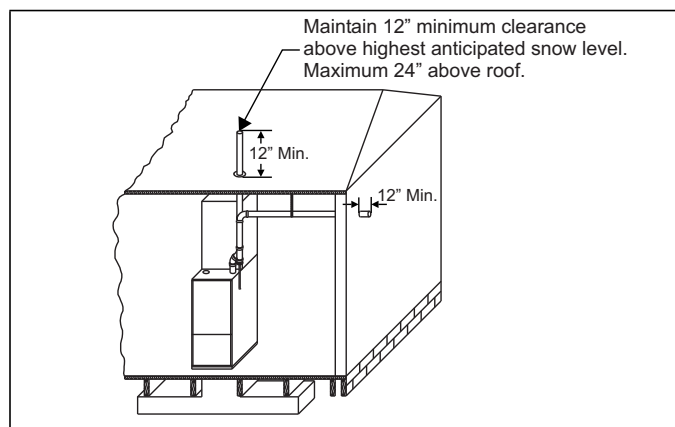
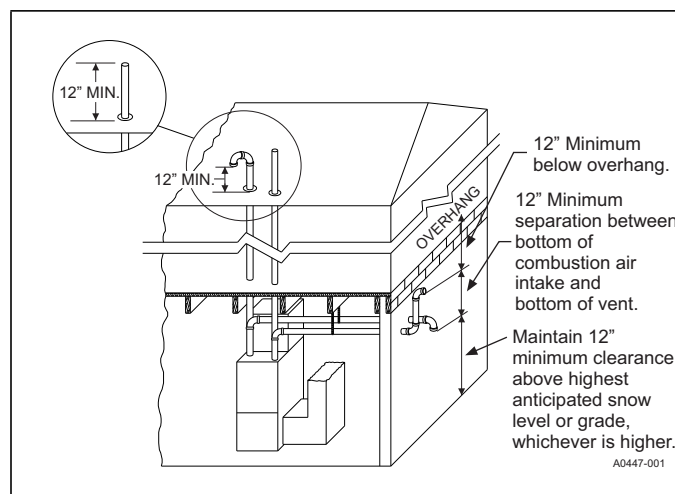
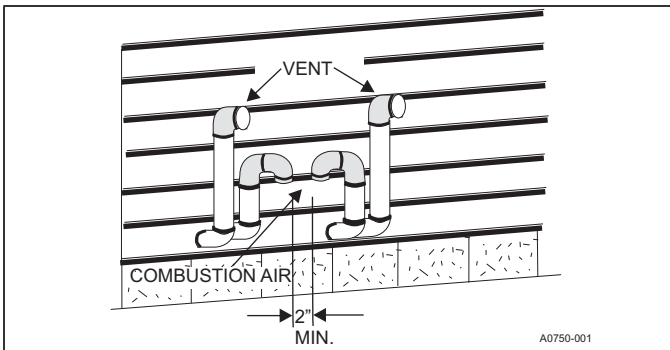

FIGURE 24: Termination Configuration - Single Pipe
FIGURE 26: Termination Configuration - Two Pipe Basement
FIGURE 27: Double Horizontal Combustion Air Intake and Vent Termination
- Direct vent systems must be installed so the vent and the combustion air pipes terminate in the same atmospheric zone. See Figures 24 and 25.
The combustion air side of the single-pipe configuration shown in Figures 24 and 31 is referred to in these instructions as ambient combustion air supply. Follow the instructions for ambient combustion air installations, paying particular attention to the Ambient Combustion Air Supply section. The vent for a single-pipe system must be installed as specified in the VENT APPLICATIONS AND TERMINATION section with both vents terminating as shown in Figures 27 and 28. Each furnace must have a separate vent pipe. Under NO circumstances can the two vent pipes be tied together.
The combustion air side of the two-pipe configuration shown in Figures 26 and 27 can be installed so the combustion air pipe terminates as described in the Outdoor Combustion Air or Ventilated Combustion Air sections. Follow the instructions for outdoor combustion air or ventilated combustion air and the instructions for installing the vent system with the vent terminating as shown in Figures 27 and 28. The two-pipe system must have a separate combustion air pipe and a separate vent pipe for each furnace. Under NO circumstances can the two combustion air or vent pipes be tied together. The combustion air and vent pipes must terminate in the same atmospheric zone.